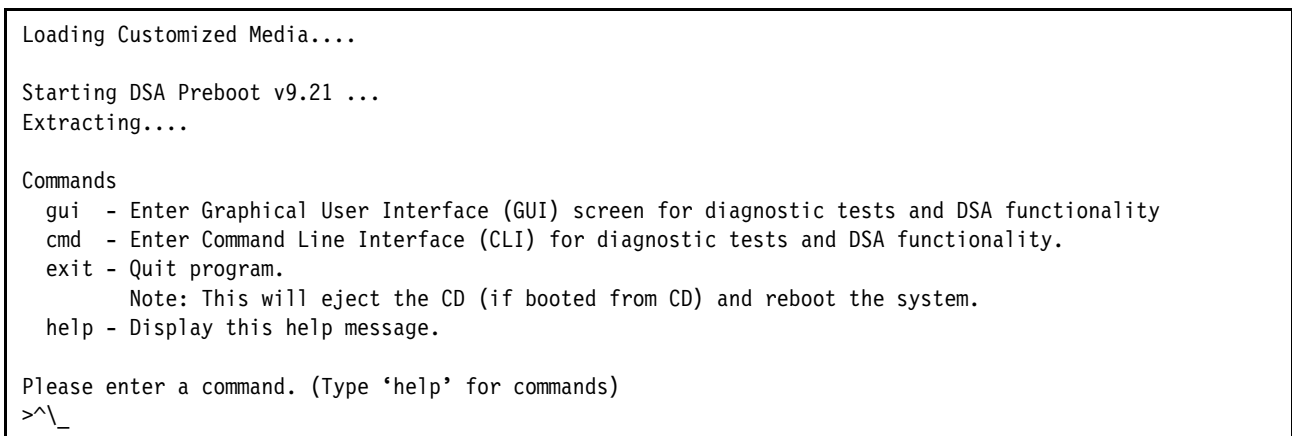

Figure 3-15 Preboot DSA user interface selection menu
- The user interface selection menu appears, as shown in Figure 3-15. Enter `gui` and press Enter to proceed to the DSA GUI.